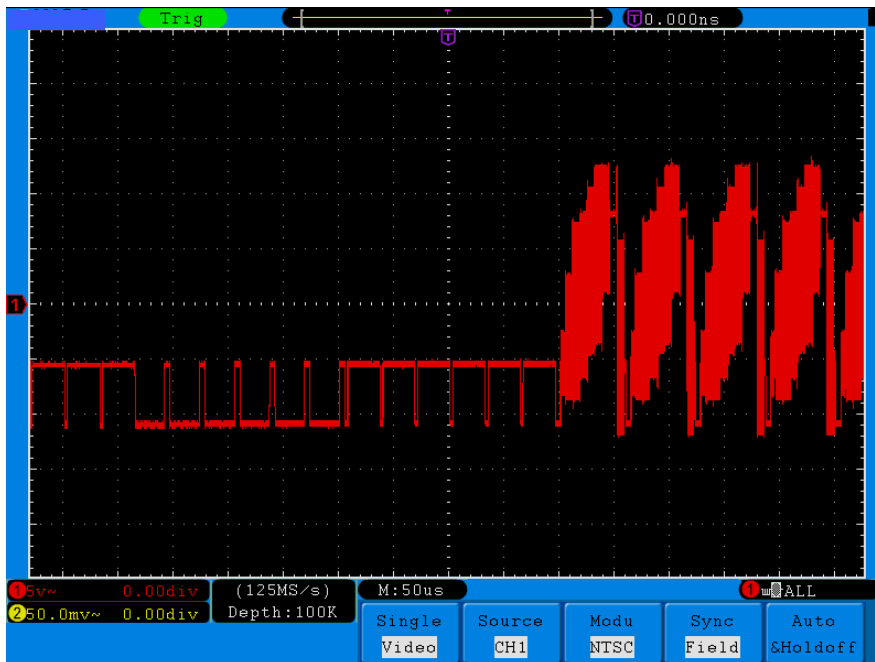

Figure 7-7 Waveform Captured from Video Field Trigger
- (1) Press the **Trigger Menu** button to display the trigger menu.
- (2) Press the **H1** button to display the trigger type menu.
- (3) Press the **F1** button to choose **Single** for Type.
- (4) Turn the **M** rotary control to choose **Video** as the mode.
- (5) Press the **H2** button to display the Source menu.
- (6) Press the **F1** button to choose **CH1** for Source.
- (7) Press the **H3** button to display the Modu menu.
- (8) Press the **F1** button to choose **NTSC** for the modulation.
- (9) Press the **H4** button to display the sync menu.
- (10) Press the **F2** button to choose **Field** for Sync.
- (11) Turn the **VOLTS/DIV**, **VERTICAL POSITION** and **SEC/DIV** rotary controls to obtain a proper waveform display (see *Figure 7-7*).